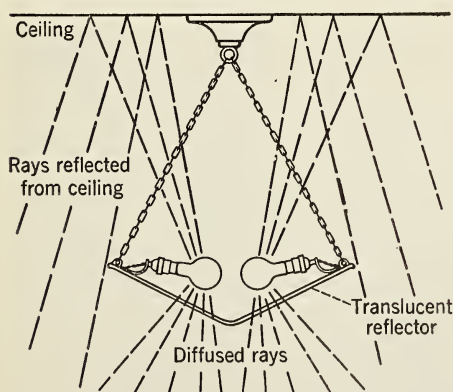

FIG. 10-17. Semi-indirect lighting gives soft light, too, and it is more efficient than indirect lighting.
c) Semi-indirect lighting. The diagram of Figure 10-17 shows the principle used in semi-indirect lighting. The reflector is made of translucent glass. Some of the rays filter through the glass to the space below, and a part are reflected